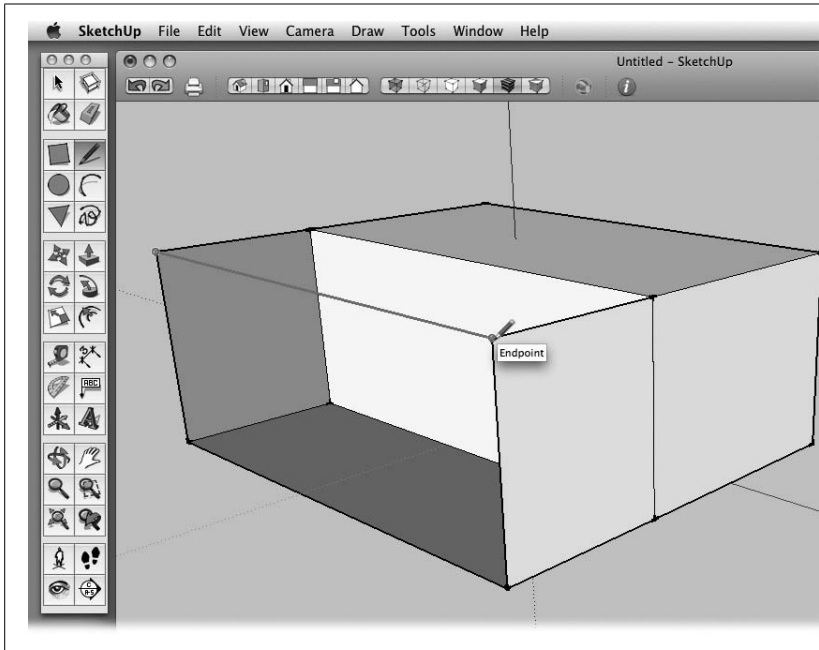

Figure 4-4: Drawing this last line from corner to corner will complete the new box. With a click of the mouse, the last two faces fill in.
18. **Complete your new box by drawing a line from top corner to top corner, as shown in Figure 4-4.**